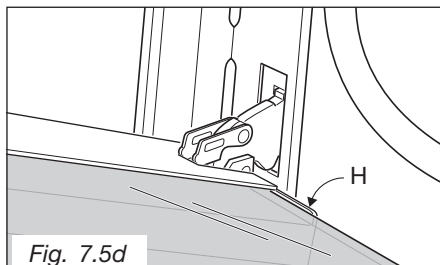

Fig. 7.5d
- Insert the inner pane in the left **E** and right **F** side guides (fig. 7.5c) and gently let it slide up to the retainers **H** (fig. 7.5d).